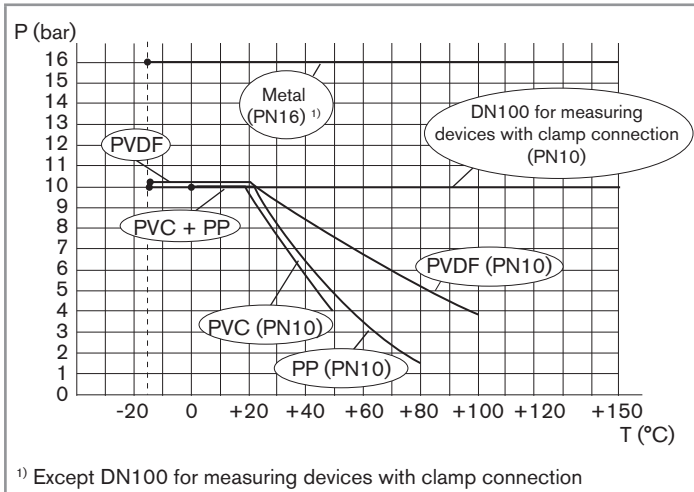

Fig. 3: Fluid pressure / fluid temperature dependency curves for T fittings used on their own
- ▶ Take into account the dependency between the fluid pressure and the fluid temperature according to the materials from which the product is made (see Fig. 3) and to the measuring device used (see the related Operating Instructions).